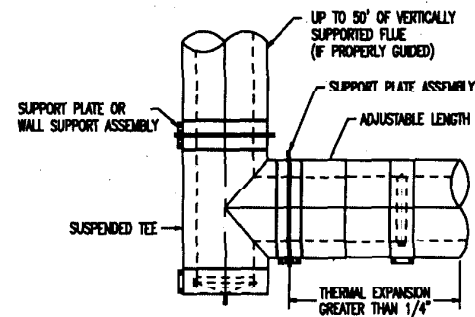

Figure 8 - Two Axis Supported Tee
- B. Two axis support - This method is recommended if the total thermal expansion is expected to be above 1/4" as shown in Figure 8. This allows the Adjustable Length section to function properly.